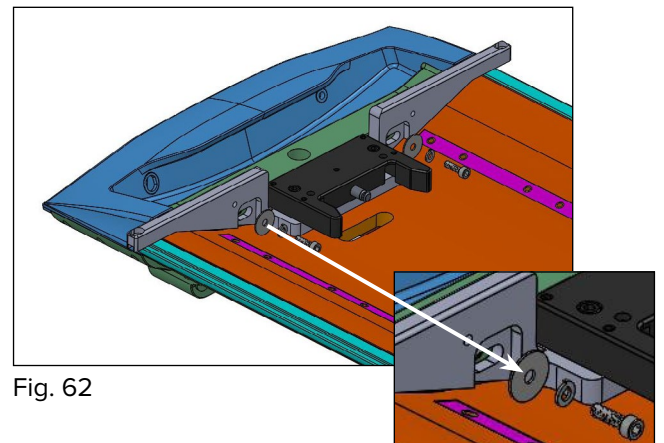

Fig. 62
3. Using Socket Head Cap screws (3001551), Split Locking Washer M6 (3001826) and Oversize M6 Washer (3002347) to secure the Latch Assembly onto the cradle. While tightening the screws, ensure that the Latch Assembly is centered on the CT (Fig. 62).